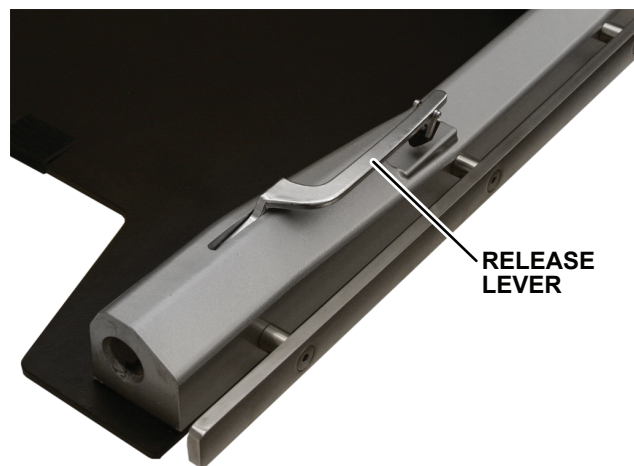

Figure 4-2. Leg Section
1. Ensure the leg section release levers lock and release properly (Figure 4-2).